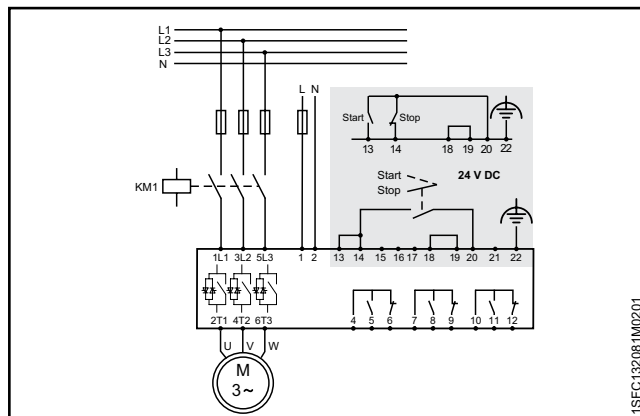

Figure 2.7
6. Look at the diagram, see **Figure 2.7**, and connect the start/stop circuits: terminal 13, 14, 18, 19 and 20/21, with the internal 24 V DC terminal. When you use internal 24 V DC (terminals 20 or 21), the terminals 18 and 19 must be connected to each other. For external control circuit voltage, see chapter **5.1.2.3 Start and Stop - terminals 13, 14, 18, 19, 20, 21**.